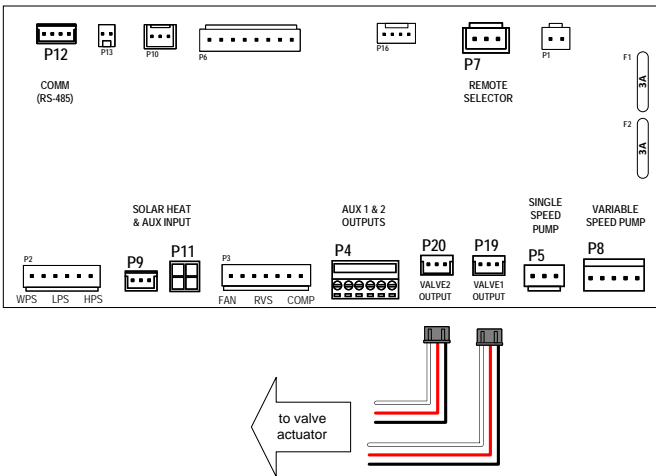

Figure 132. Wiring Valve Actuator Harnesses
2. Connect the field-supplied valve actuator harnesses to the terminals of the control board marked as "VALVE 1" [P19] and "VALVE 2" [P20]. Note that the rating of the control contacts is 0.75A at 24VAC. See Figure 132.